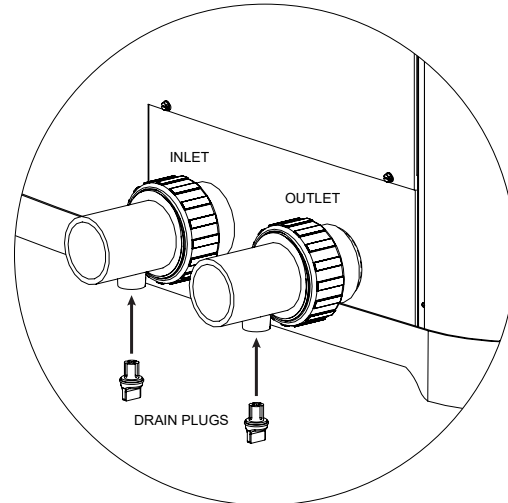

Figure 37. Drain Plug Locations
2. With the pool pump OFF, close the external shut-off valves and remove the drain plugs located in the inlet and outlet water unions to allow water to drain. See Figure 37.